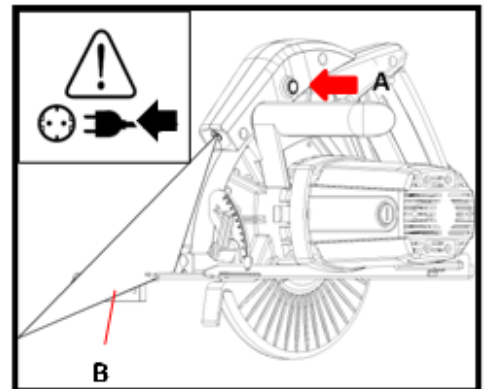

Fig.7
1. Plug power cord into appropriate power supply and turn on the laser on/off switch. Laser (B) will illuminate. Fig.7